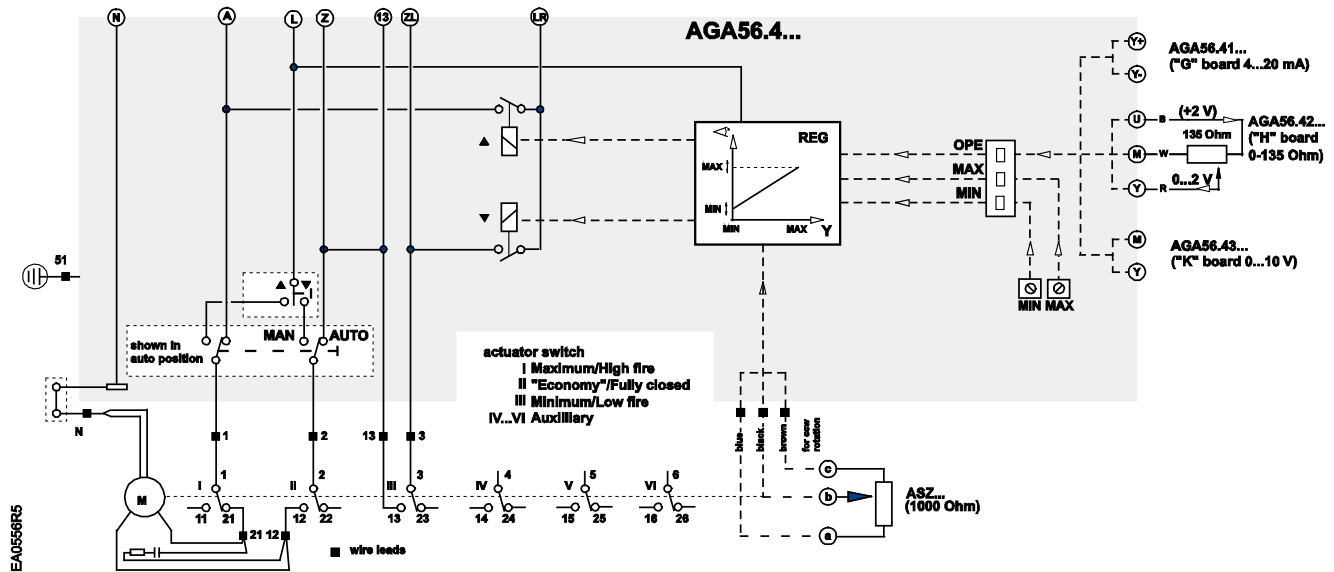

Figure 9. Basic Functional Diagram of AGA56.4
See Figures 9 and 10.
9. Connect the input control signal wires to the appropriate terminals. See Figure 9.